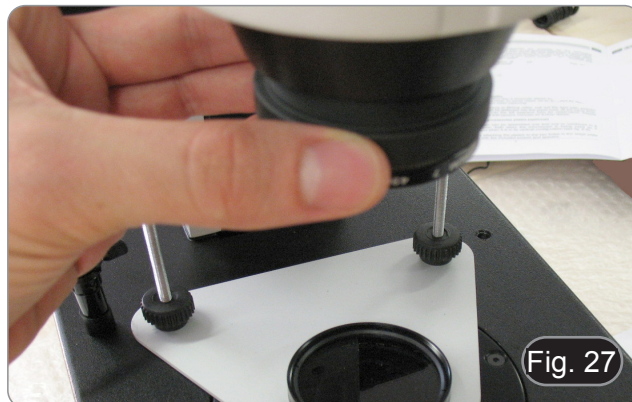

Fig. 27
2. Screw the analyzer on the bottom of the microscope body. (Fig. 27)
4. Screw the analyzer on the bottom of the head. (Fig. 27)
2. Screw the analyzer on the bottom of the head. (Fig. 27)